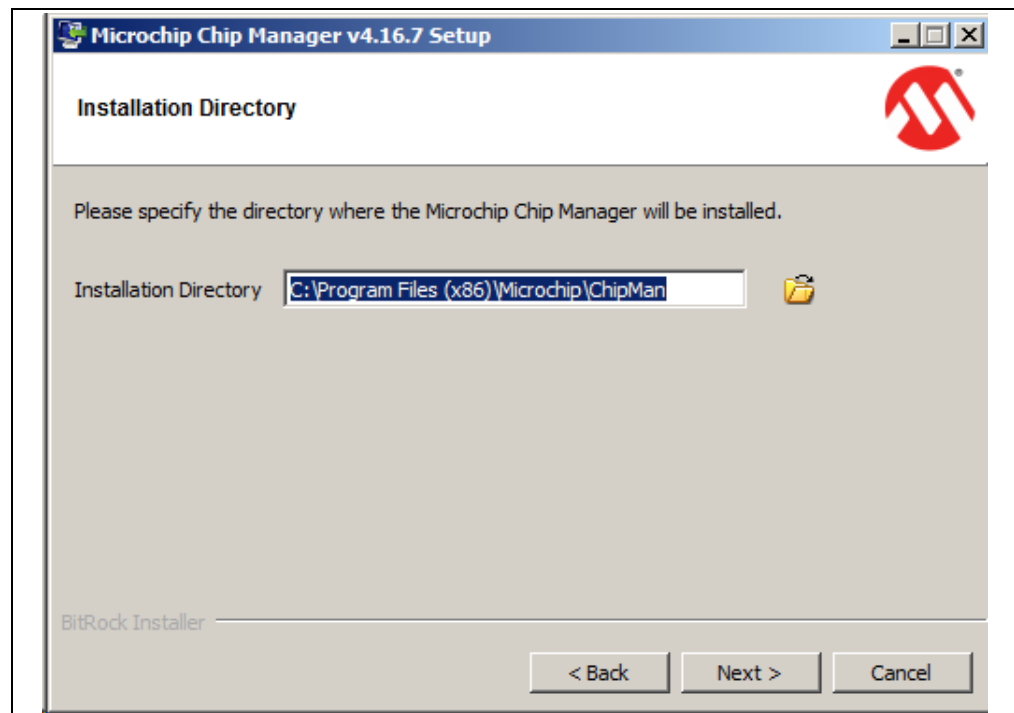

FIGURE 2-4: Installation Directory Dialog.
8. On the Installation Directory dialog, browse for the desired location or click **Next** to install in the default location (see Figure 2-4).